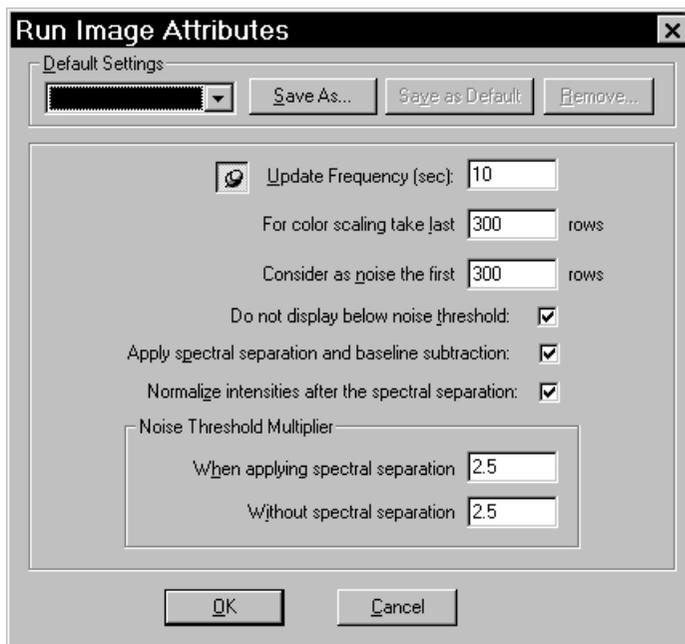

Figure 5-4. The Run Image Attributes window.
1. Choose **Run Image Attributes** from the Options menu. The Run Image Attributes window appears (figure 5-4).